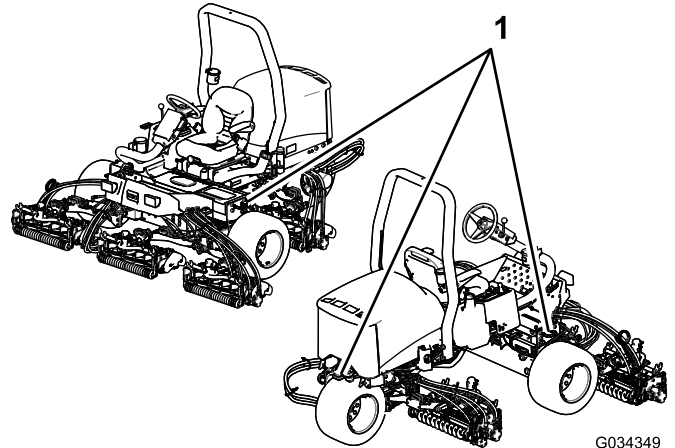

Figure 44
- Tie the machine down securely using straps, chains, cable, or ropes. Both front and rear straps should be directed down and outward from the machine; refer to Figure 44.